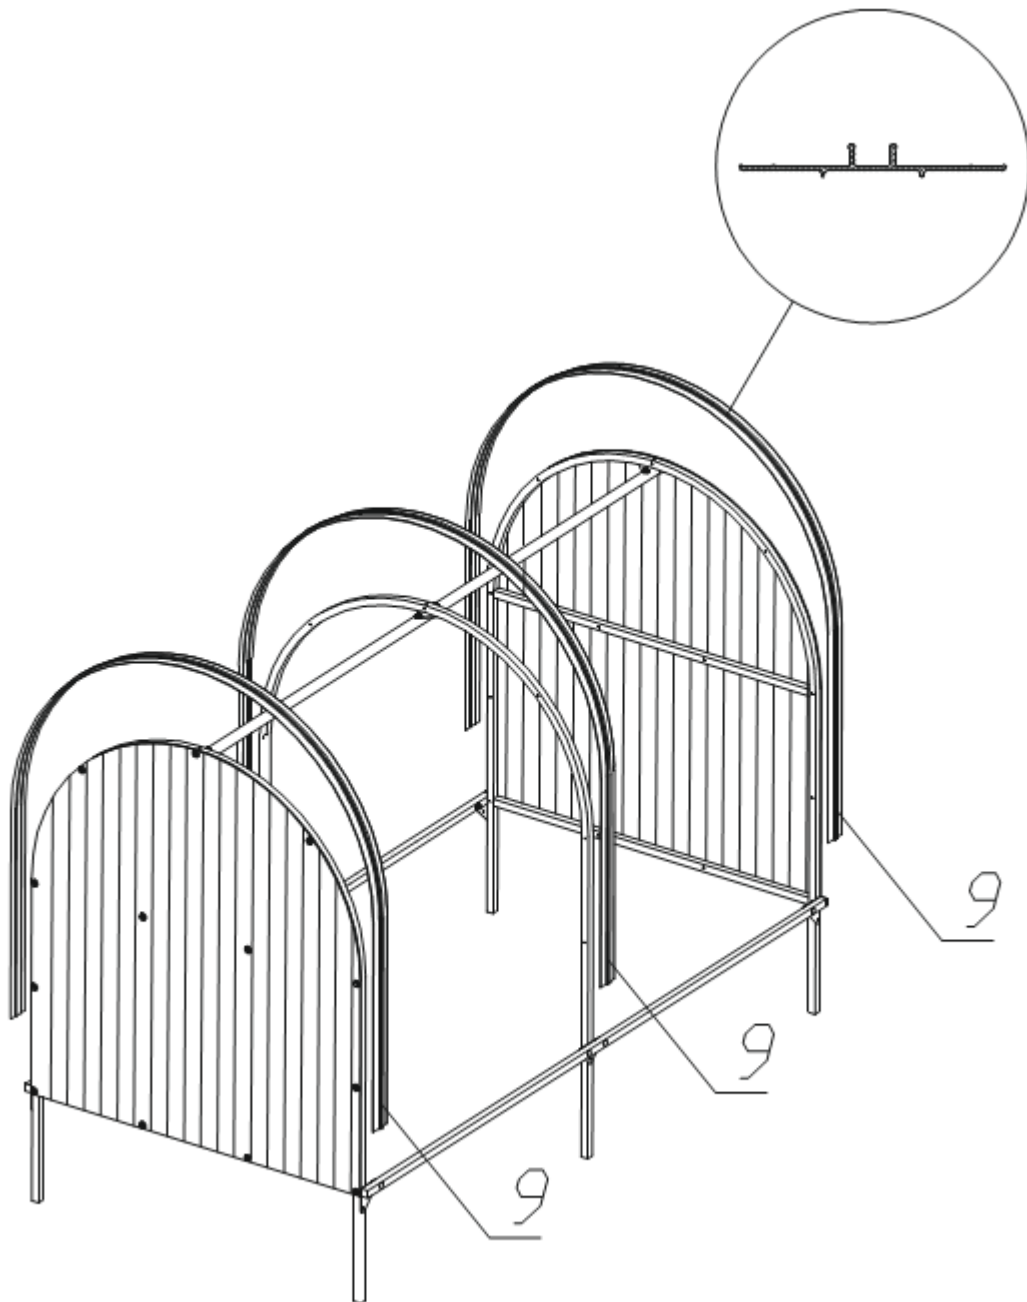
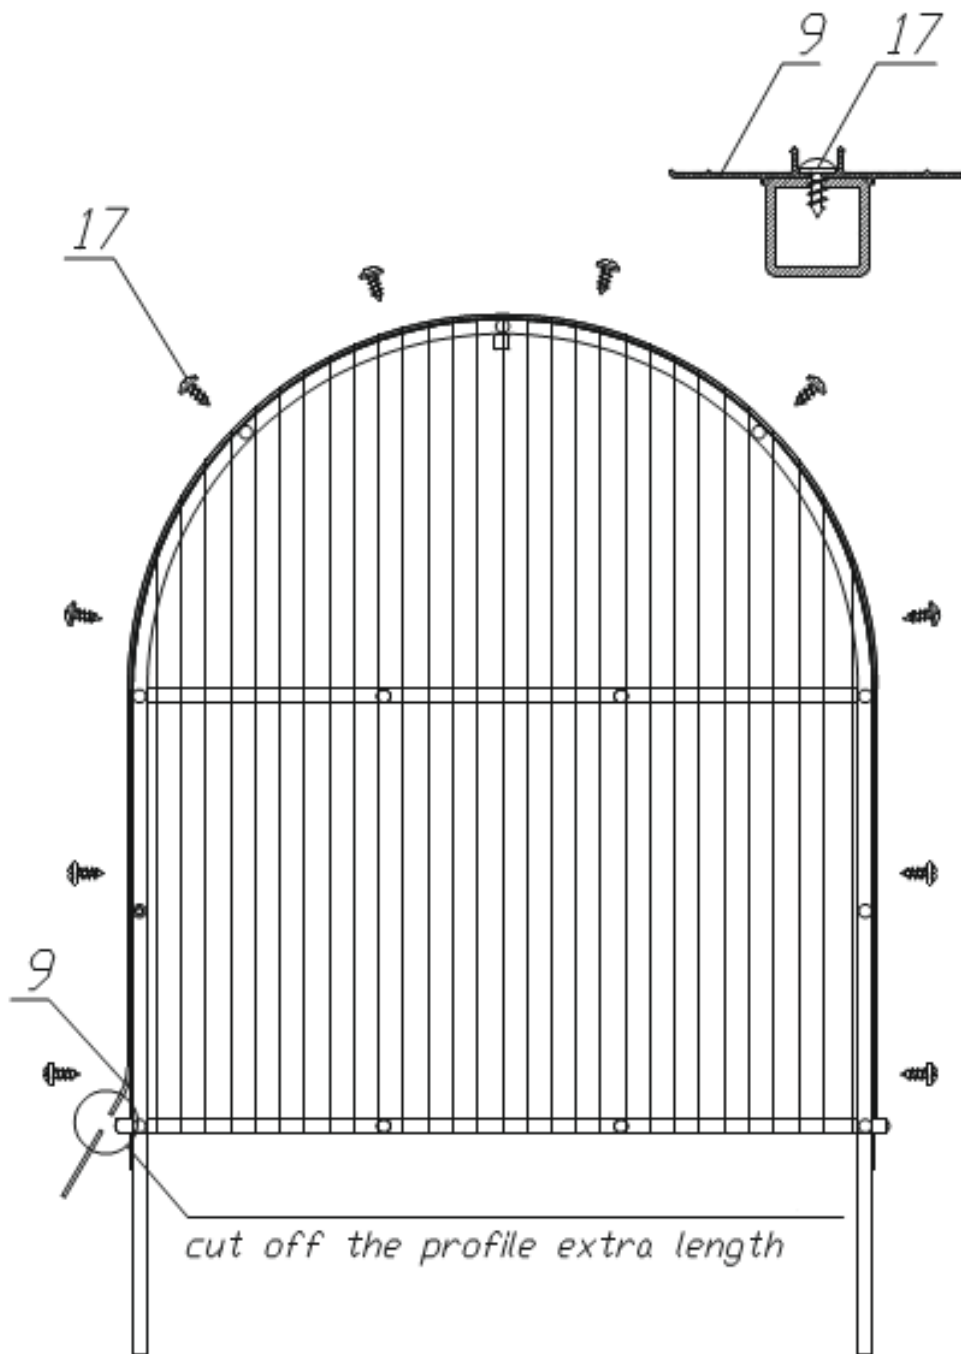

Fig. 4
Fig. 5
4.1 Take the external profile with one lock (Position 9), place it on the arc of the end face with the lock facing upwards (Figure 4), fix with the self-tapping screw (Position 17) (Figure 5).
4.2 The profile extra length should be cut (Fig. 5).